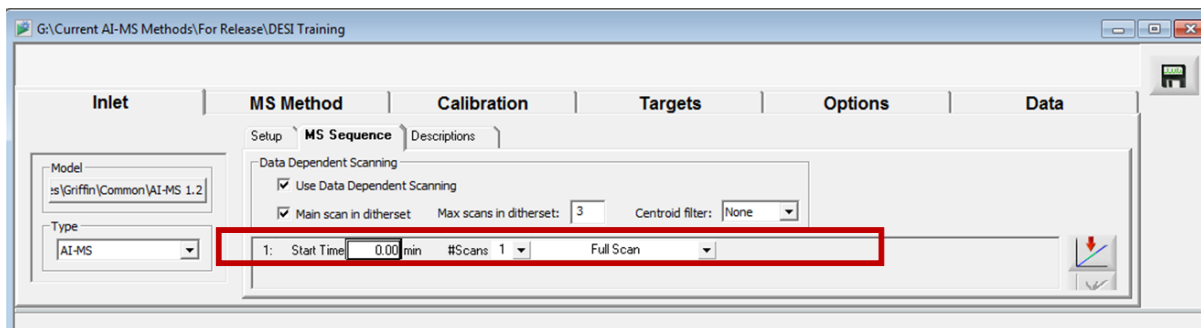

Figure 4.20 – “Inlet” “Setup” window
- Under the “Inlet” and “MS Sequence” tab, make sure that a “start time” and “#Scans” is specified. Also confirm that the boxes are check marked as in Figure 4.20.
A ditherset is the max number of “dithers” that will be run at a given time. This number is determined by the user. The main scan in the ditherset will always include a “MS scan” as one of the dithers in the set. The main scan is utilized by the DDS to look for triggers that will initiate compound-specific MS/MS analyses. This will continue to be used while the software performs said MS/MS scans. Compound-specific protonated ion signatures are typically used as the triggers in question. The main scan is highlighted above (Figure 4.20).